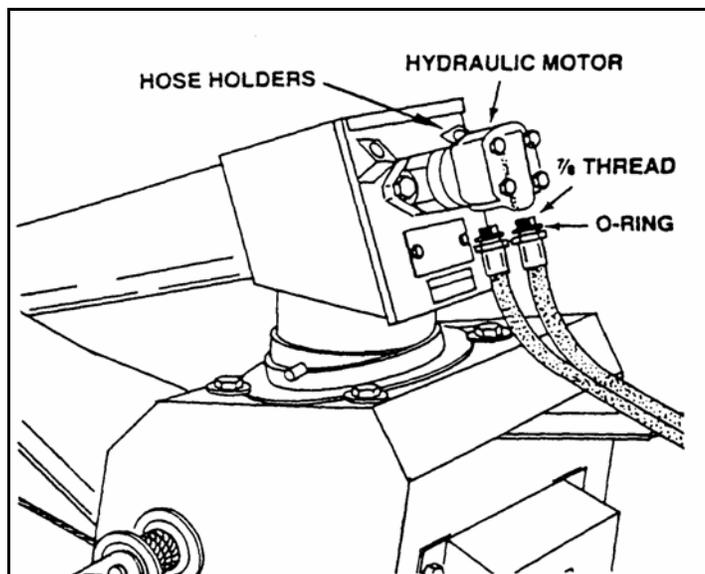

Figure 3.26
- c. Securely attach the 2 hydraulic hoses to the hydraulic motor. The correct end of hose has the 7/8" thread and o-ring (Figure 3.26).